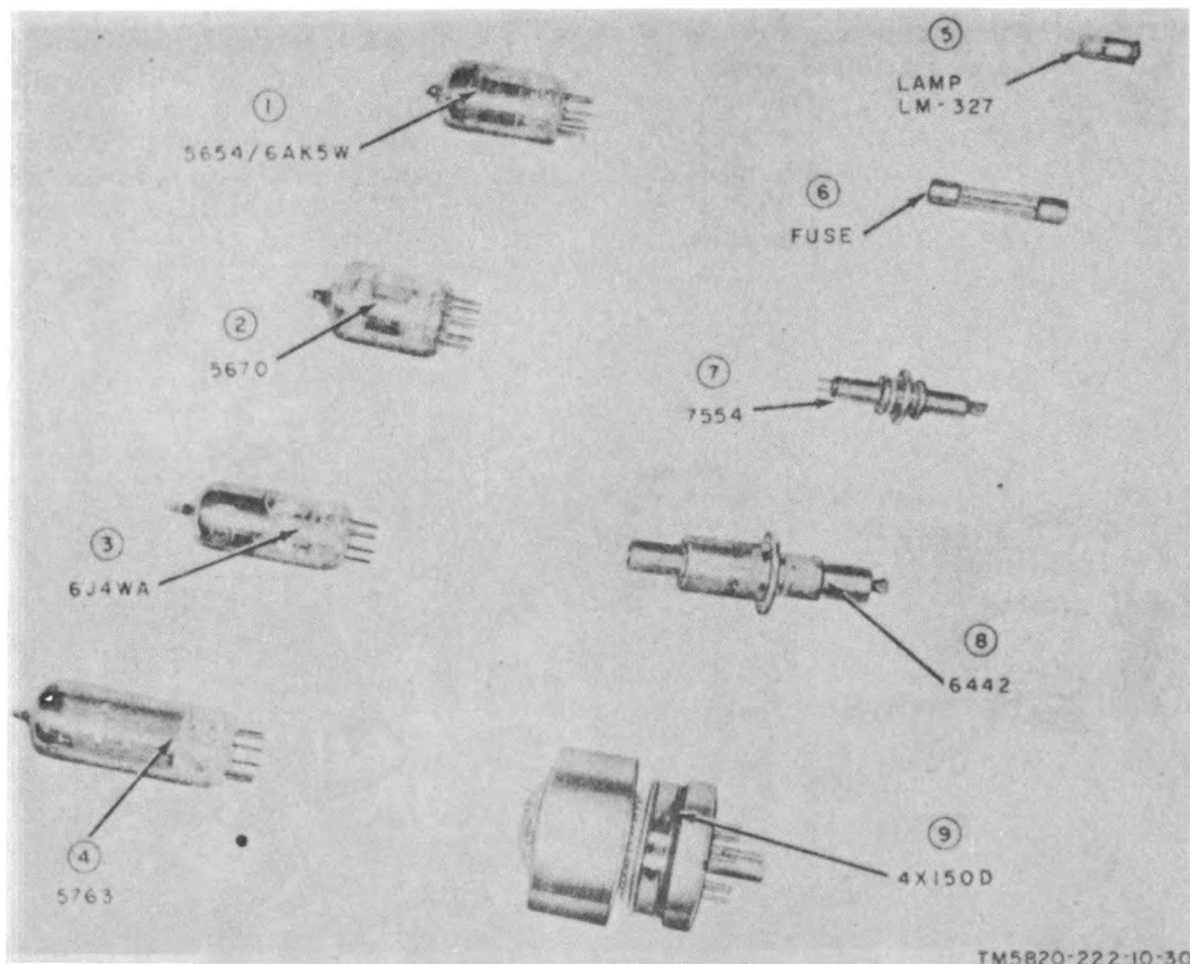

Figure 10. Running spares.
c. *Running Spares* (fig. 10).
The accessory case contains four drawers for storing the accessory equipment described in paragraph 18, Spool DR-8-A and Wire WD-1/TT (fig. 9), the interconnecting cables, spare tubes (fig. 10), and technical manuals supplied as part of the AN/TRC-68.